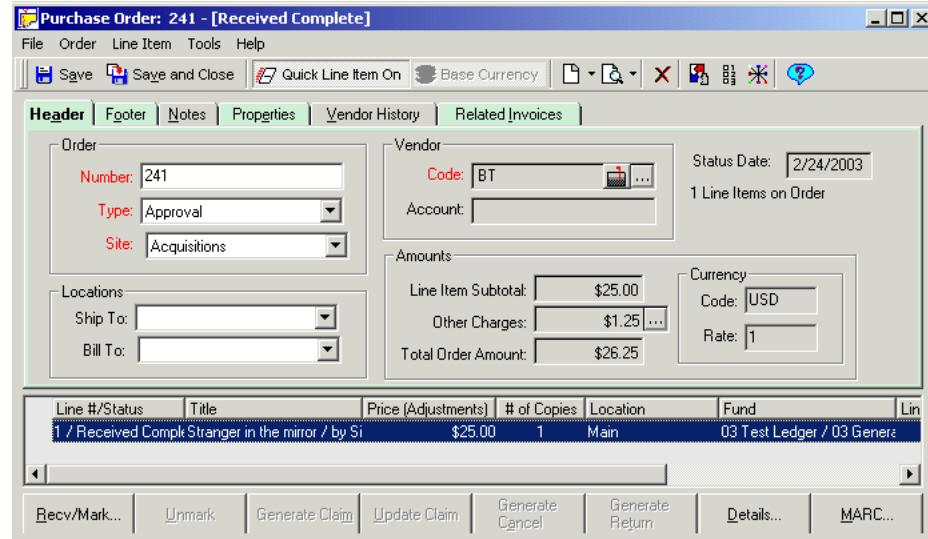

Figure 13-3. Line Items section of a Purchase Order - MARC button displayed
- The **MARC** button (Figure 13-3) in the Line Items section of a Purchase Order. This button can be used to display MARC bibliographic records associated with the line items on a purchase order. See Adding Line Items to a Purchase Order on page 6-15 for more information about the Line Items section of a purchase order.